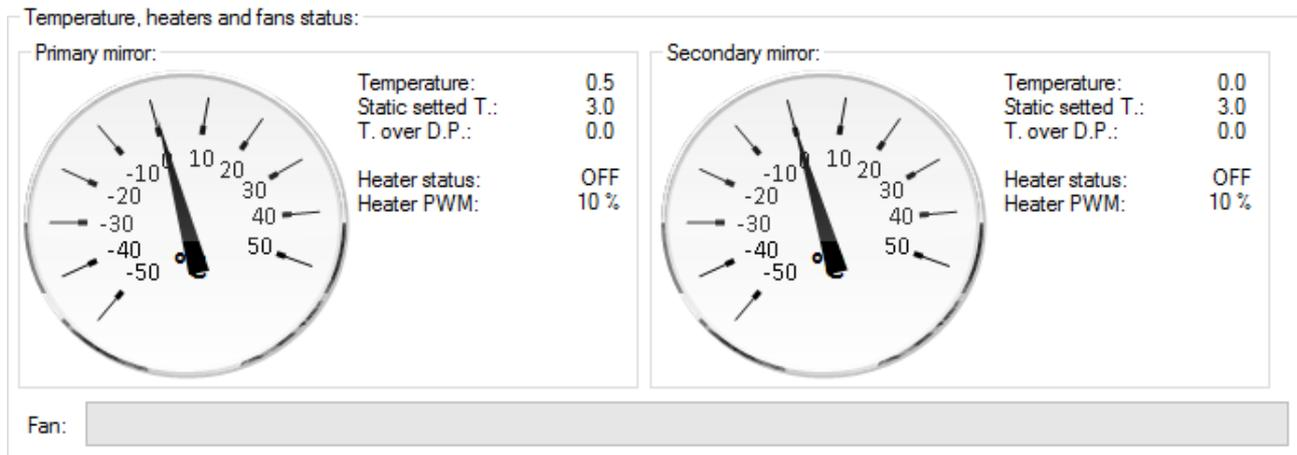
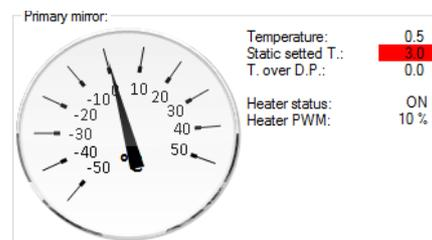

Fig. 26: Mirrors temperature and heater status and fans status
Fig. 27: Temperature control ON
- Static setted T: temperature setted in the maintain static temperature controls. This has a white background (Fig. 26) if the temperature control is off, it turns red when the temperature control is enabled (Fig. 27).